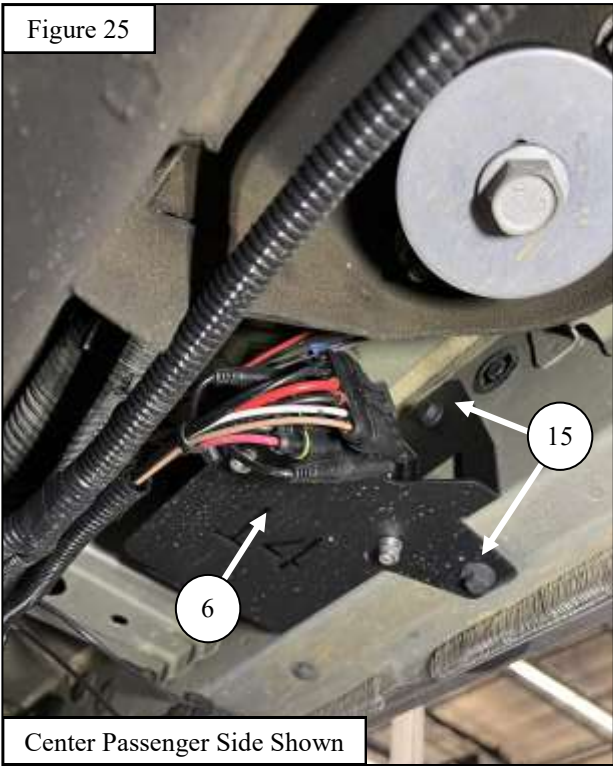

Figure 25
16. Loosely install the Control Module Assembly (Item 6) to the center mounting location on the passenger side rocker panel using the supplied M8 hardware as shown in **Figure 25**. Please refer to **Figure 24** for bracket orientation and locations.